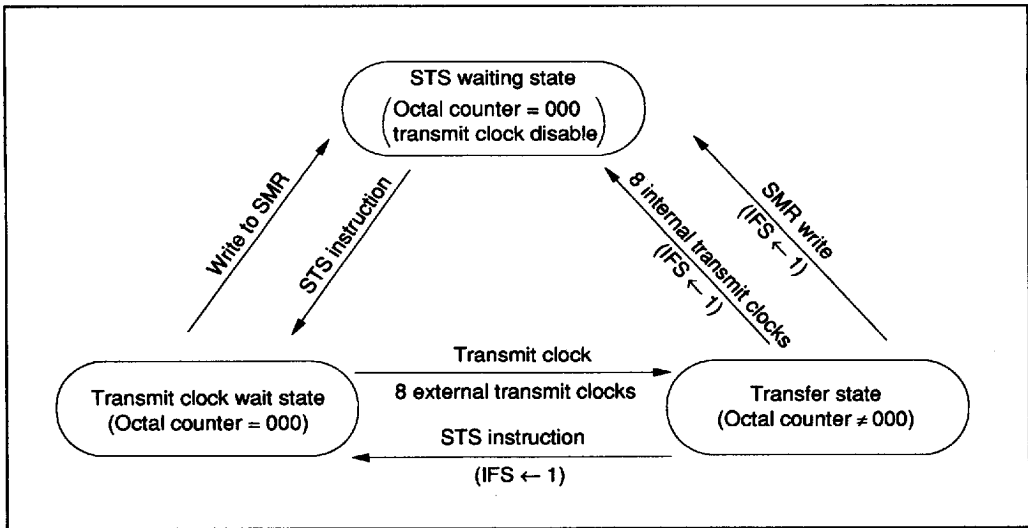

Figure 30 Serial Interface Operation States
**Operating State of Serial Interface:** The serial interface has three operating states: the STS waiting state, transmit clock wait state, and transfer state (figure 30).